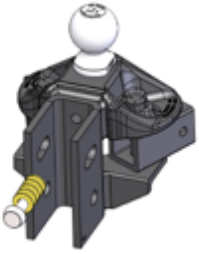

Figure 1
2. Insert the spacer rivet with washers into the back of the hitch head. Start with 6 spacer washers for most setups. (Figure 1)